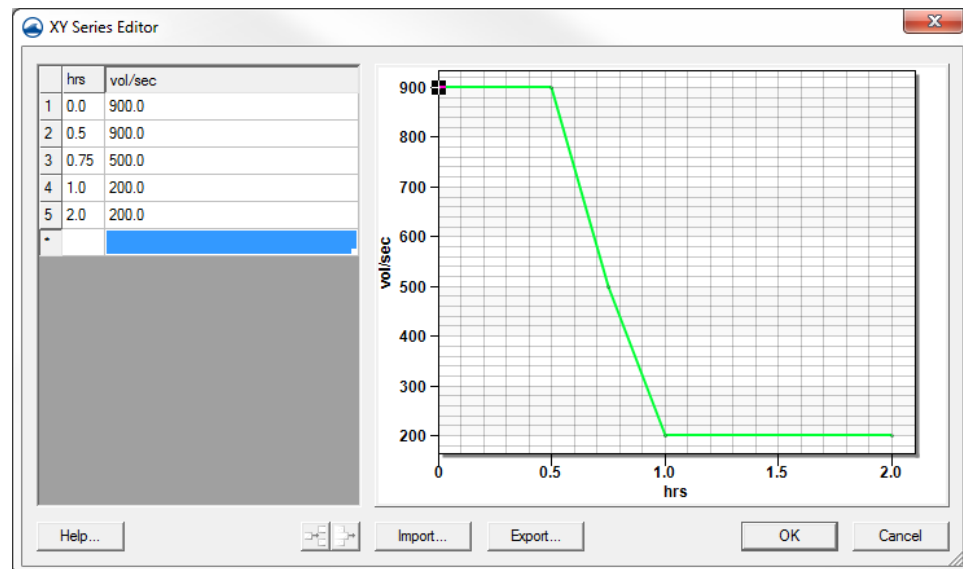

Figure 3 XY Series Editor
- Click on the button under *Time Series File* to review the hydrograph that will represent the inflow. This will open the *XY Series Editor* as shown in Figure 3.